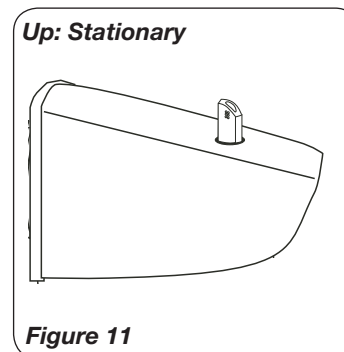

Figure 11
5. **OSCILLATION:** Push down oscillation knob on motor housing to make fan head move from side to side. (*Figures 11 and 12*)